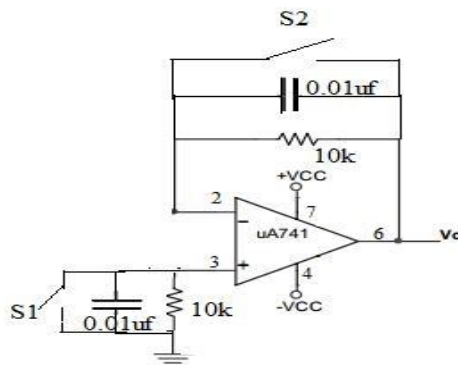

Fig.1.2: Circuit Diagram to measure Input bias current and Input offset current
1. Connect the circuit as shown in Fig.1.2.